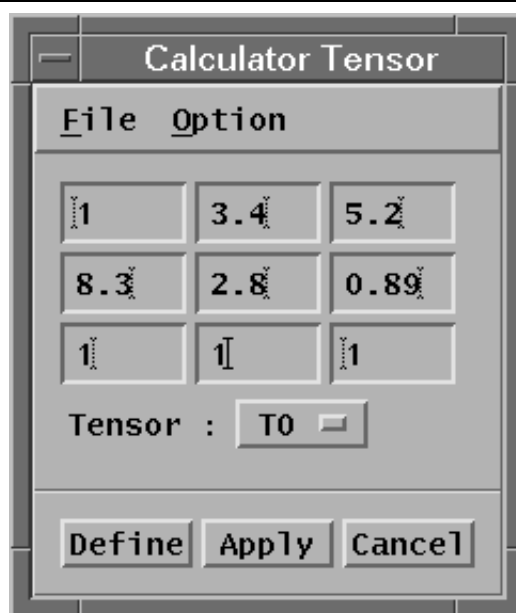

Figure 12: The calculator tensor
**Specifying a tensor** Under the menu *Options*, choose *Tensor* and a window will pop up, see Figure 12.